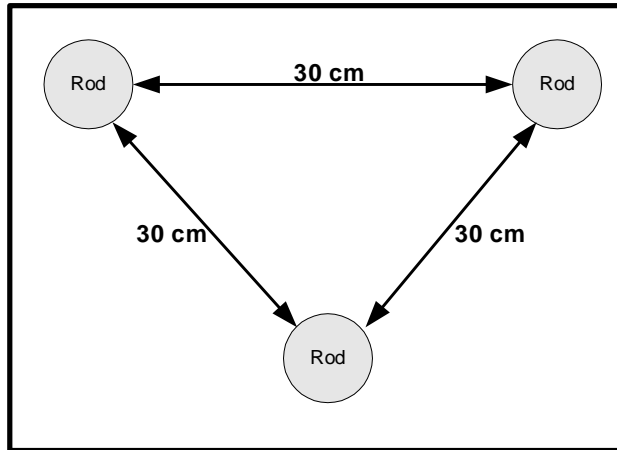
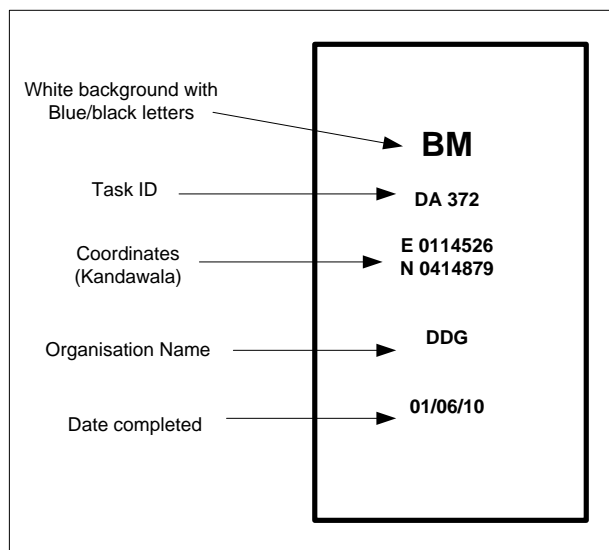
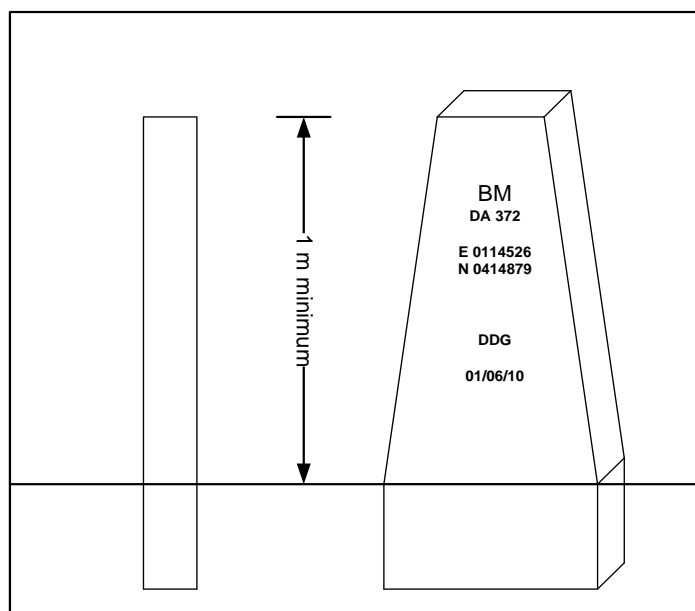
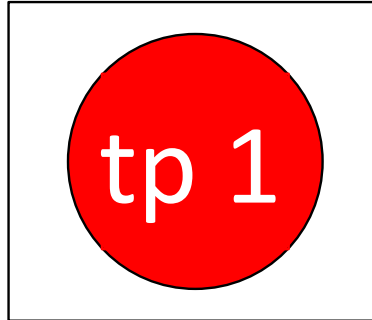

Figure 1: Metal rods driven flush with the ground
Figure 2: Minimum information on Benchmark
Figure 3: Typical Benchmark
Figure 4: Turning point sign
- a. **Benchmark.** The benchmark shall be constructed of materials that will endure the environment and shall extend deep enough into the ground with a solid foundation to support the weight. It shall be clearly visible in normal daylight at a safe distance from the obvious direction of approach. It shall protrude a minimum of one meter above the ground. Metal rods shall be driven flush with the ground at the base of the benchmark as indicated in Figure 1. The information regarding the cleared land that shall occur on the benchmark is indicated in Figure 2. See Figure 3 for a typical benchmark.
- b. Turning points. Each corner and each turning point of the cleared area shall be marked by driving three metal rods flush to the ground as shown in figure 1 as a permanent marker as well as with a typical turning point sign shown in figure 4. The turning points shall be numbered and in a clockwise direction starting from the starting point. The sign of the start point should look similar to the turning points but shall bear the letters SP.